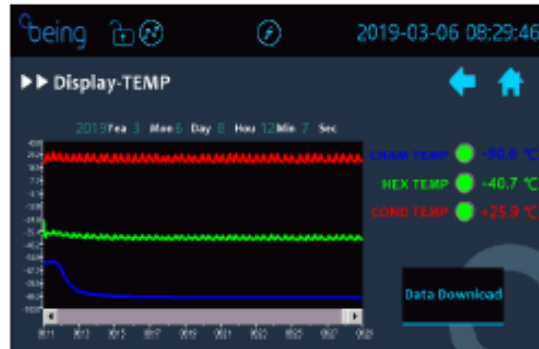

Figure 1-28.
3. Touch the “Temp Log” button from the display page to enter the temperature log page, as shown in Figure 1-28.